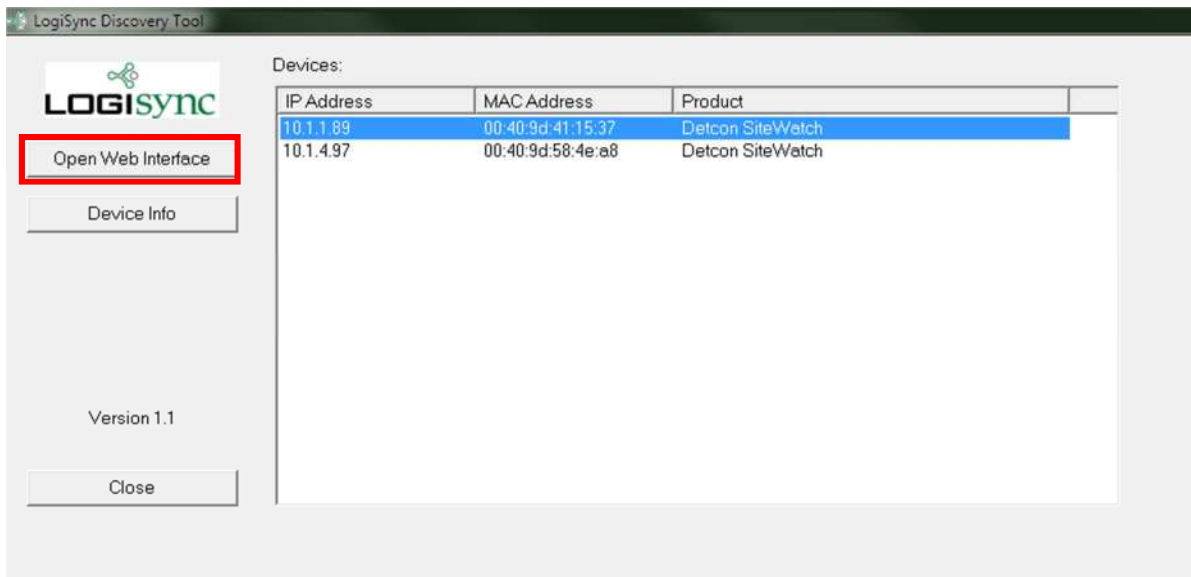

Figure 6 LSDiscovery Tool
1. Figure 6). The LSDiscovery program can be downloaded from the Detcon website (link).